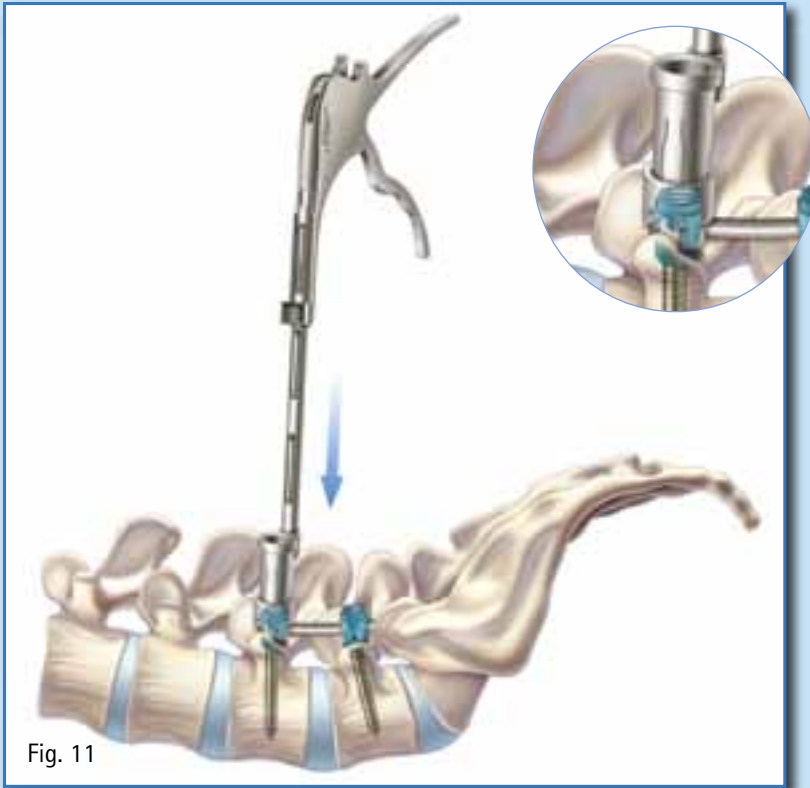

Fig. 11
- Place the rod persuader (FW285R) over the implant head and ensure the tip of the persuader is fully engaged to the head of the implant. (Fig. 11)